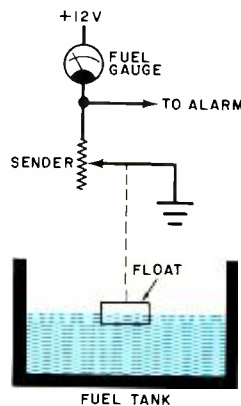

Fig. 1. Typical fuel-gauge circuit.
**Circuit Operation.** In most vehicles, the fuel-level sensor is a float-controlled potentiometer (sender) wired in series with the dashboard-mounted fuel gauge (meter) and connected between the chassis and +12-volt line as shown in Fig. 1. As the fuel level changes, the resistance changes, making the meter indication change.